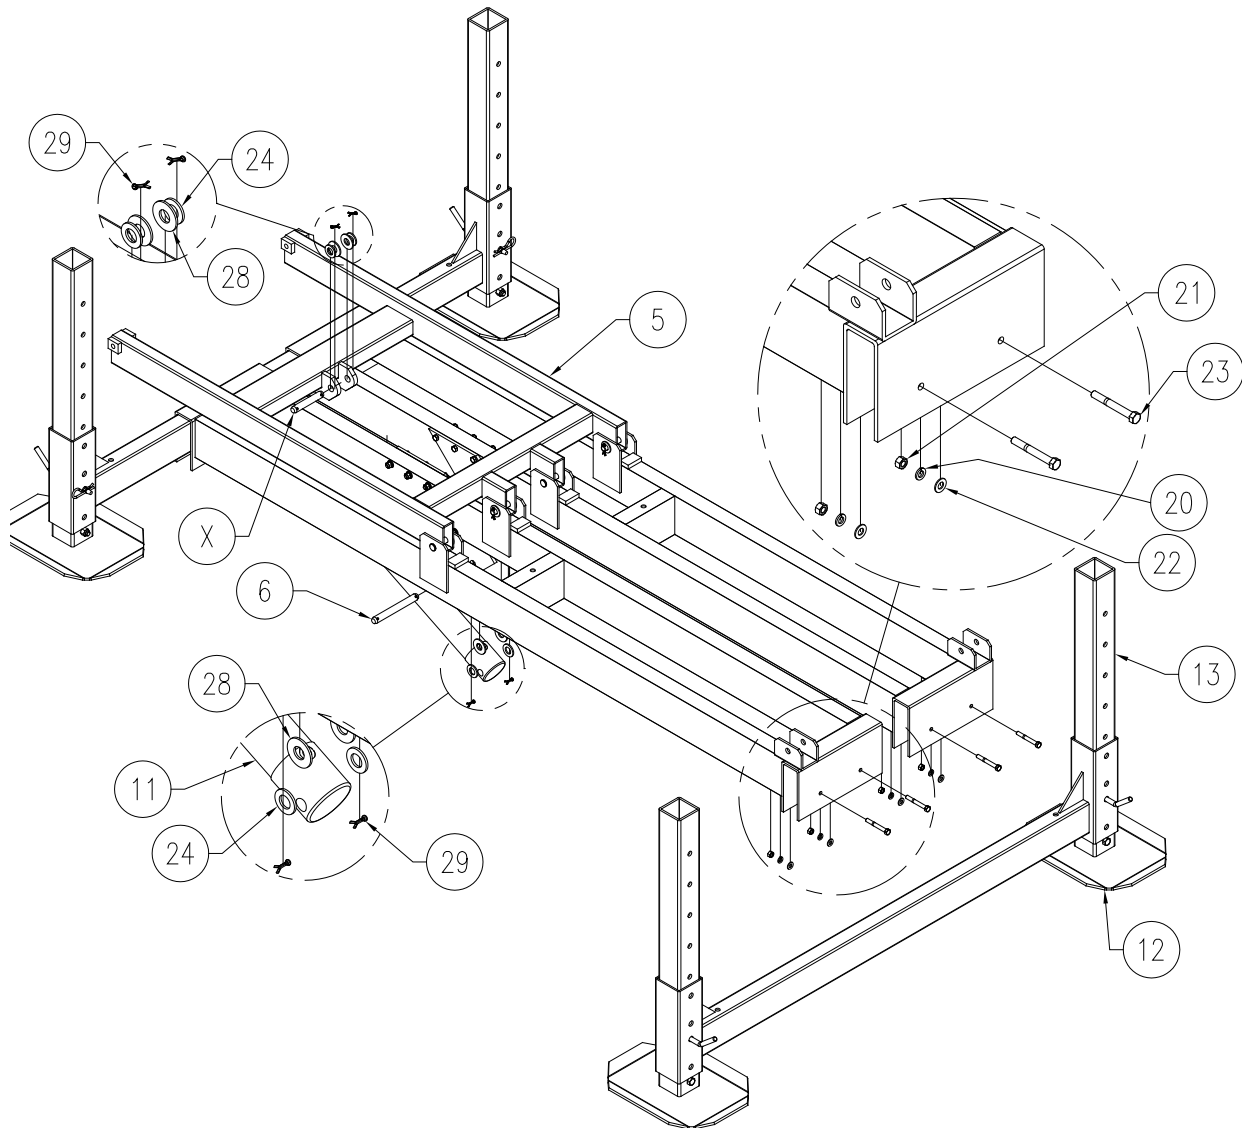

Figure 3-4.
2. Refer to **Figure 3-4**. Install front lift arm (9) to the main frame. Before inserting clevis pin (M), install nylon washer (J) between the main frame and the lift arm pivot plates. Insert clevis pin (M) through the main frame and hole in the liftarm. Install flat washer (Q) and cotter pin (P) on each end of clevis pin. Secure clevis pin by spreading end of cotter pin apart and bending around clevis pin.
1. Refer to **Figure 3-4**. Install the hydraulic cylinder (11) onto the main frame. Place the cylinder in position so that the hydraulic fittings are facing upward. Place the cylinder in position and insert pin (6) through only one cylinder support. Install nylon flat washer (28) between the cylinder and the cylinder support. Insert clevis pin through the cylinder body. Insert another nylon flat washer (28) between the cylinder and the other support.
1. **Refer to Figure 3-4.** Install left and right side main frame (7 & 8) onto each leg assembly. Center the main frames onto the leg assembly as close to center as possible. Also set left and right frames to a dimension of 24" inside frame tubes.